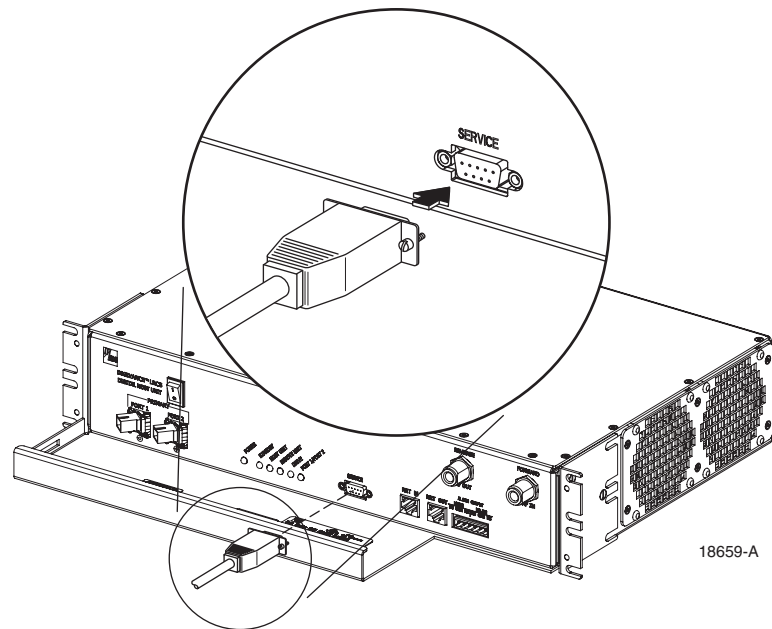

Figure 3-13. Service Interface Connection
1. Connect one end of the service interface cable (accessory) to the SERVICE port as shown in Figure 3-13.